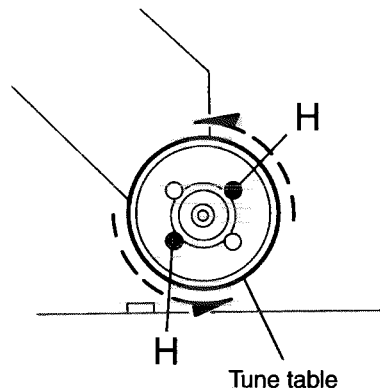

Fig. 16
2. While turning the turntable, remove the two screws H retaining the spindle motor and take out the spindle motor (See Fig. 16).